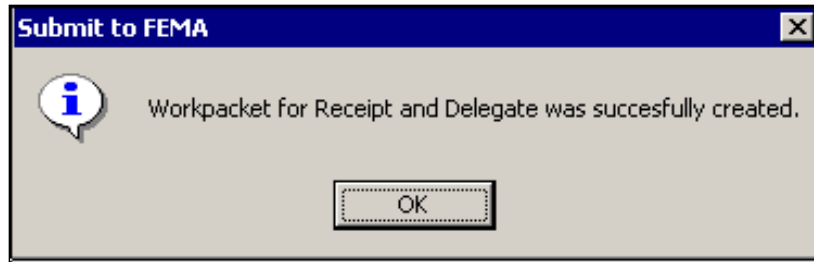

Figure 6-124: Work Packet Created Message
9. Click the YES button. The project application is submitted to FEMA. A message is displayed that the work packet for the Receipt and Delegate task in the Eligibility Determination process was created (Figure 6-124).